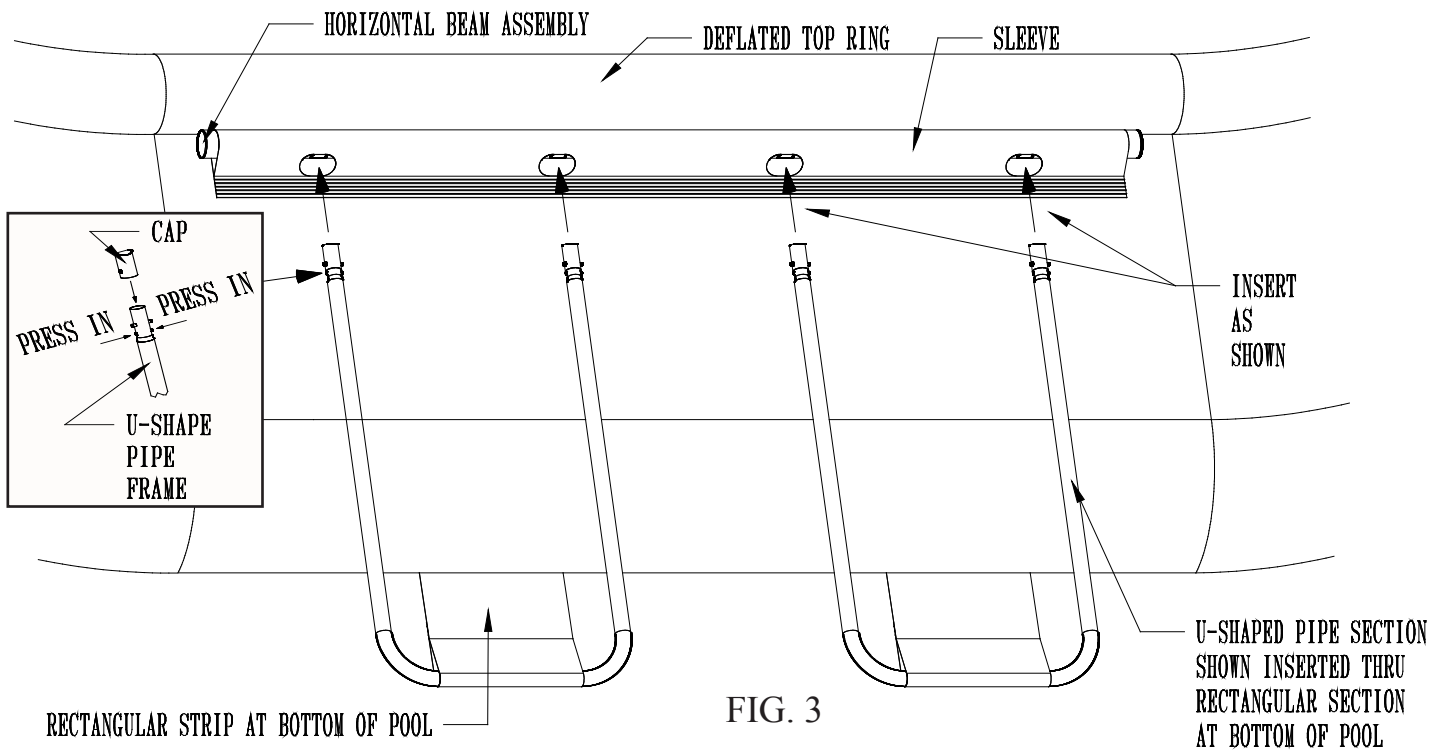

FIG. 3
4. Now insert the two U-Shape pipe sections through the end of the two rectangular strips at the bottom of the pool FIG. 3. Now, insert the capped ends of the U-Shape pipe into the holes in the Horizontal Beam assembly FIG. 3 depress the buttons pushing the Cap entirely into the horizontal beam until it stops.